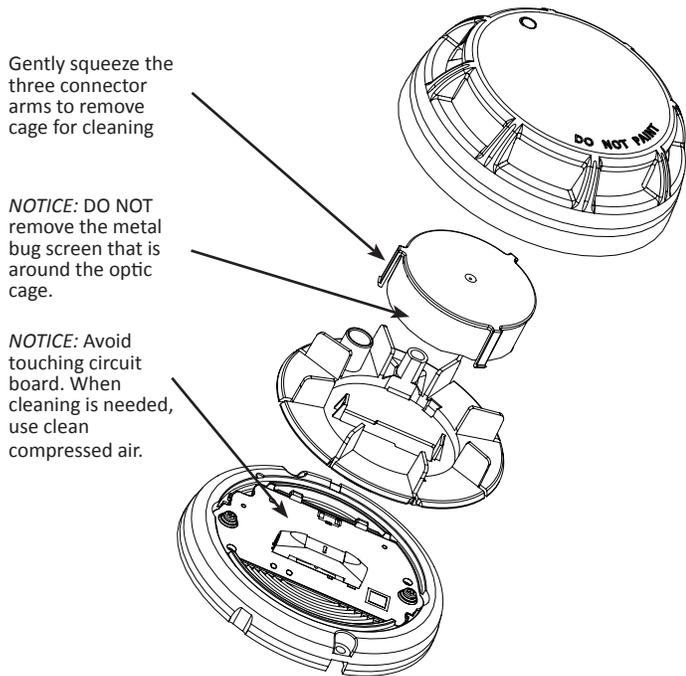

FIGURE 5: Remove Optic Cage from Detector for Cleaning (PAD100-PD only)
- Remove optic cage (FIGURE 5) from detector circuit board by gently gripping the sides of the optic cage base and lifting from detector circuit board.
- Remove optic cage from optic cage base, by gently squeezing the three connector arms and very gently lifting from optic cage base (FIGURE 5).